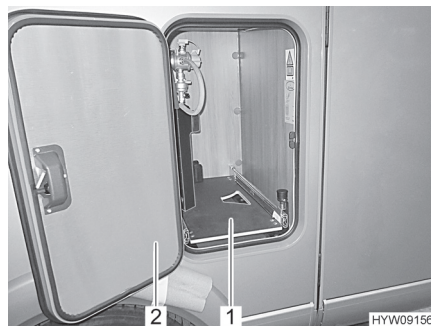

Fig. 118 Gas bottle compartment
- Open flap (Fig. 118,2) for the gas bottle compartment.
- Pull out the gas bottle compartment pull-out (Fig. 118,1) until the knob engages again. Now, the gas bottle compartment pull-out is locked in this position.